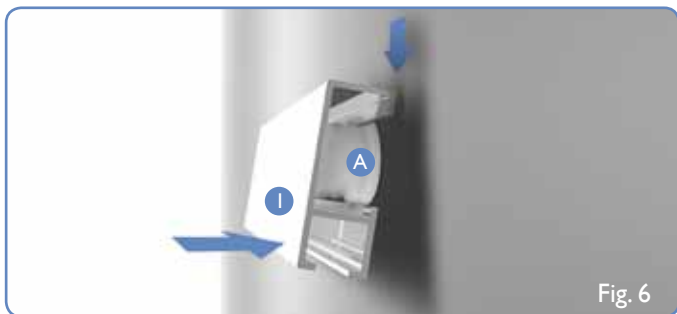

Fig. 6
2. The rail **I** you pressed on to the wall-clip **A**. (Fig.6)